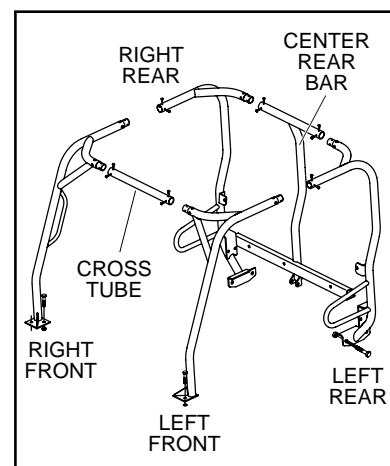

Figure 10
The light bar (Figure 10) provides a support for lights, hard covers, soft covers and enclosures.
1. Remove the capscrew and lock nut (Figure 10) securing the left front and right front supports to the support frame.
NOTICE: Use Figure 10 as a guide to disassembly or assembly the light bar